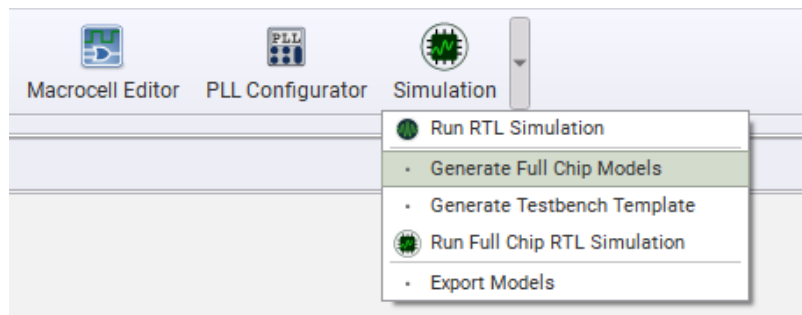
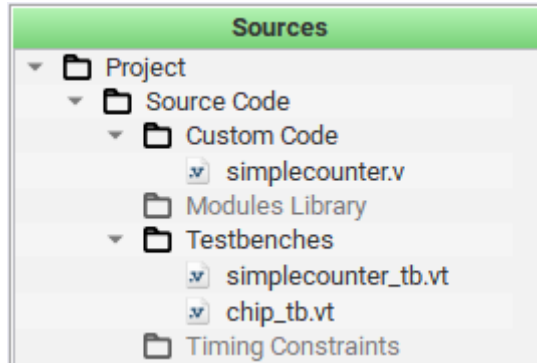
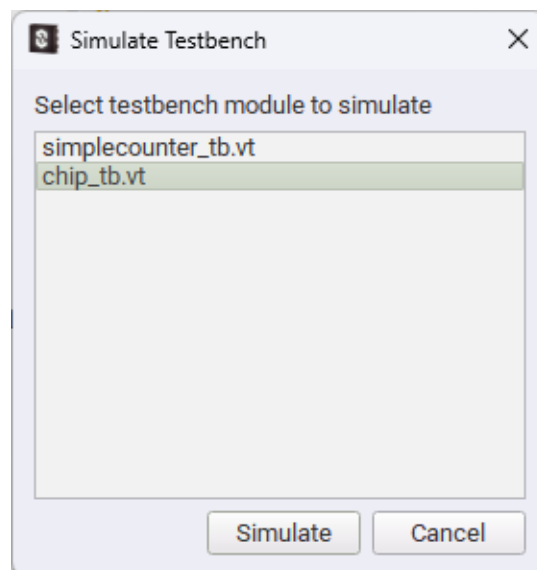

Figure 6. Generating Full-Chip Models
Figure 7. Source Tree
Figure 10. Simulate Testbench
2. Generate simulation models – after synthesis and bitstream generation are finished, open the **Simulation** tab and select **Generate Full-Chip Models** (Figure 6). This will automatically create the simulation models needed for verifying the design using Full-Chip RTL Simulation.
3. Create a testbench – before running the simulation, generate a testbench template by selecting **Generate Testbench Template** shown in Figure 6. The ForgeFPGA Workshop facilitates this process by providing the ability to generate a testbench template (*chip_tb.vt*), which can then be seen in the Source Tree (Figure 7).
6. Select **Run Full Chip RTL Simulation** (see Figure 6) – execute the Full-Chip RTL Simulation by choosing the *chip_tb.vt* testbench to test the operation of the project (see Figure 10).
2. Generate simulation models – after synthesis and bitstream generation are finished, open the **Simulation** tab and select **Generate Full-Chip Models** (Figure 6).
9. Select **Run Full Chip RTL Simulation** (see Figure 6) – execute the Full-Chip RTL Simulation by choosing the `chip_tb.vt` testbench to test the operation of the project (Figure 10).